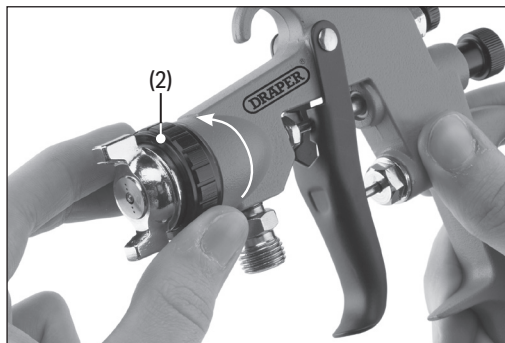

Fig. 2
1. Unscrew the air cap lock ring (2) and remove the air cap (1) from the spray gun body (Fig. 2).